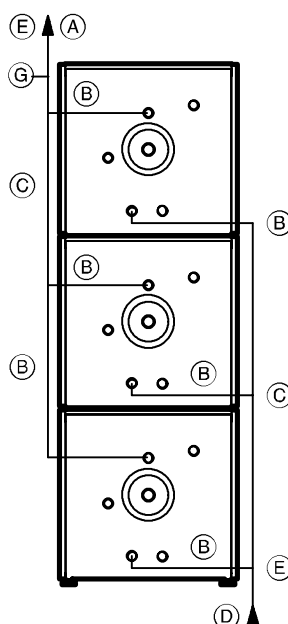

Fig 14.
In order to avoid temperature stratification Viessmann recommends the use of a small recirculation pump between the DHW supply point (A) and the DCW supply point (D) in multiple tank arrangements (Figs 14 and 15). The recirculation pump will only operate when there is no DHW draw from the tank batteries.